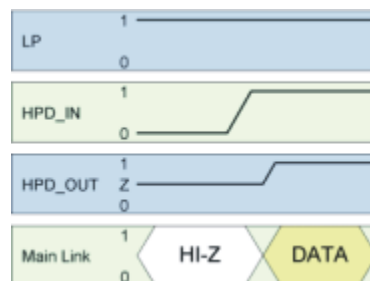

Figure 15.
- Case two: In this case HPD\_IN is initially LOW and the low power pin is HIGH. In this initial state the device is in a low power mode. Once the HPD input goes to a HIGH state the device comes out of the low power mode and enters active mode, enabling the main link and auxiliary I/O. The HPD output to the source is enabled and follows the logic state of the input HPD (Figure 15). This is specified as  $t_{Z(HPD)}$ .